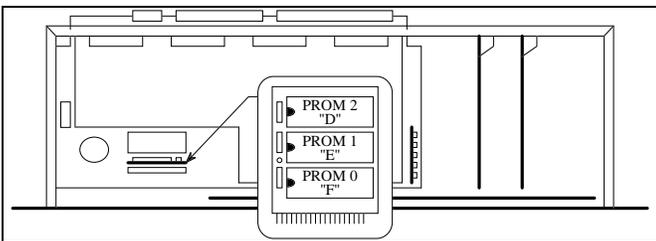

Figure 26 - Location of PMU Software
4. Remove the board with the three PROMs labeled "D", "E", and "F" as shown in Figure 26.